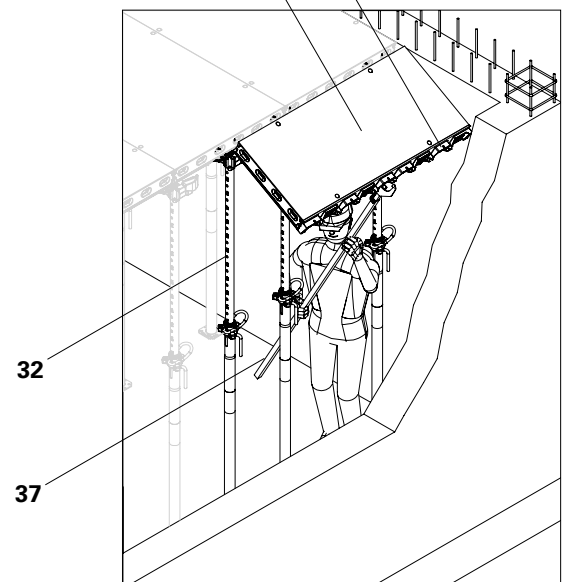

Fig. D3.02
2. Hook the DP panel prepared with the filler support crosswise into the DFH propheads. The filler support must be pointing towards the wall. Push it upwards with the shuttering aid (37), and then position it on the shuttering aid (37). (Fig. D3.02)